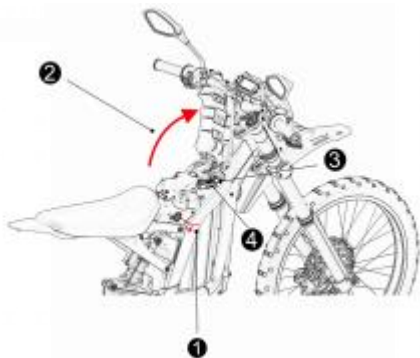

Fig 67
17.1. Disassembly and assembly of battery (see Fig 67)